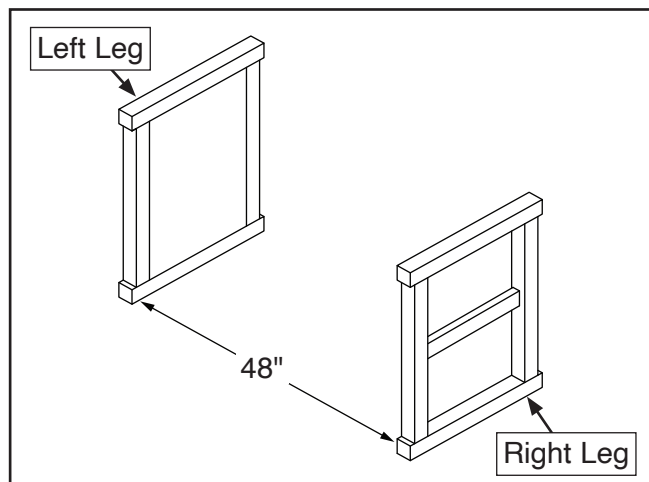

Figure 4. Positioning workbench legs.
1. Position workbench legs roughly 48 inches apart, as shown in **Figure 4**.